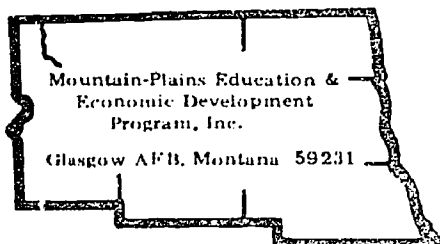

Figure 4
**BLOCK LETTERS:** Several examples are shown at the right side of Fig. 4.
**GUIDE LINES UP TO 1½ INCHES IN HEIGHT:** Construct parallel lines at the desired height, using the top and bottom holes in the center column. For the 3/5 ratio drop 4 spaces to the 5th hole and draw the third guide line. With 11 holes and thus 10 spaces, this will give the 2/5 - 3/5 ratio. See the left side of Fig. 4 for an illustration of 1¼ inch guide lines.